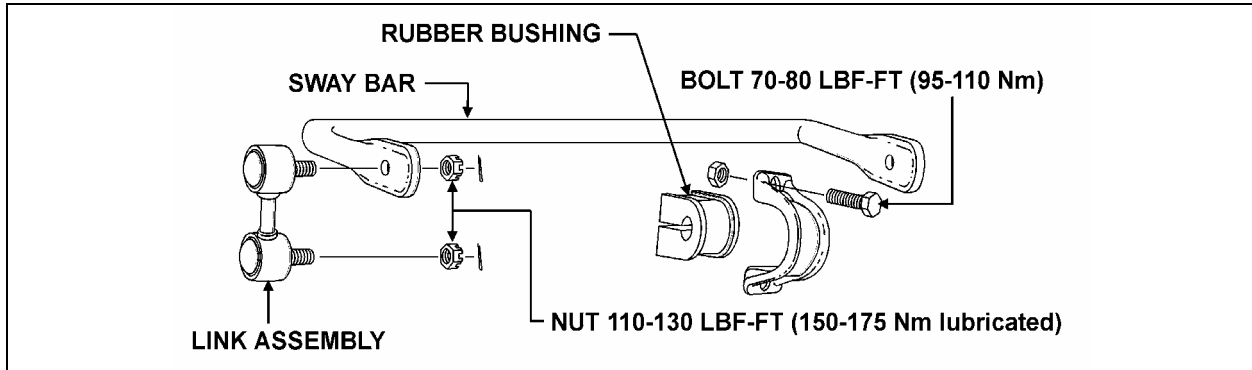

FIGURE 13: I-BEAM FRONT AXLE SWAY BAR
A sway bar is provided on the front axle to increase vehicle stability. It controls lateral motion (swaying movement) of the vehicle (Fig. 13). Vehicles equipped with an independent front suspension (IFS) are provided with two sway bars. Refer to supplement information on independent front suspension for more details.
2. Tighten the eight bushing collar nuts to 70 - 80 lbf-ft (95 - 110 Nm) (Fig. 13).
3. Install two sway bar link upper and lower nuts and tighten to 100 - 130 lbf-ft (150 - 175 Nm) (Fig. 13).